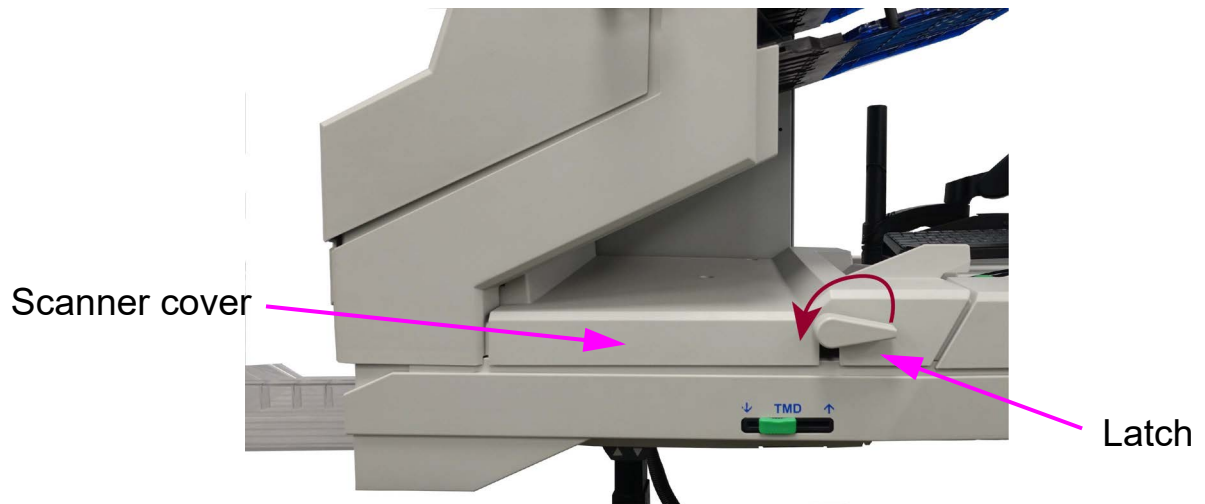

Figure 4-30: Access Scanner
1. Turn the latch counterclockwise to release the scanner cover. The scanner cover will swing to the open position (Figure 4-30).